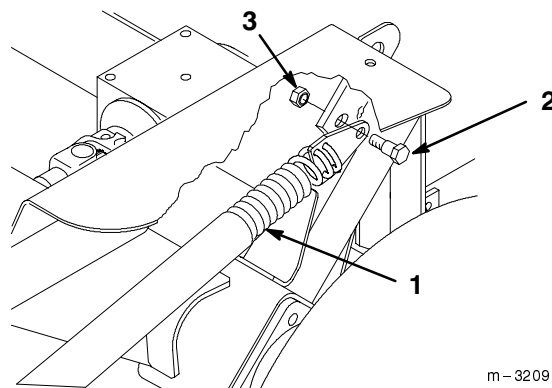

Figure 33
7. Install 3/8" x 7/8" (23 mm) shoulder bolts and 3/8" locknuts securing spring end plate assemblies to traction unit (Fig. 33).